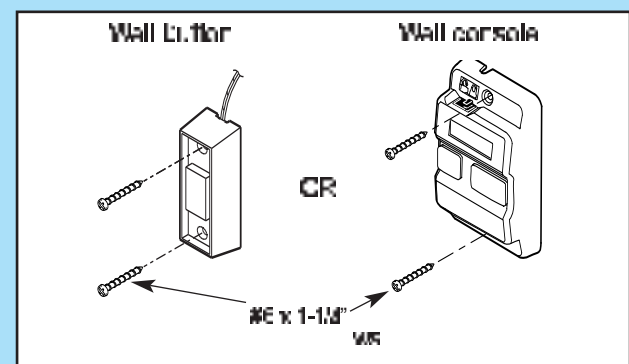

Fig. 4-2
5. Mount wall control (Fig. 4-2).